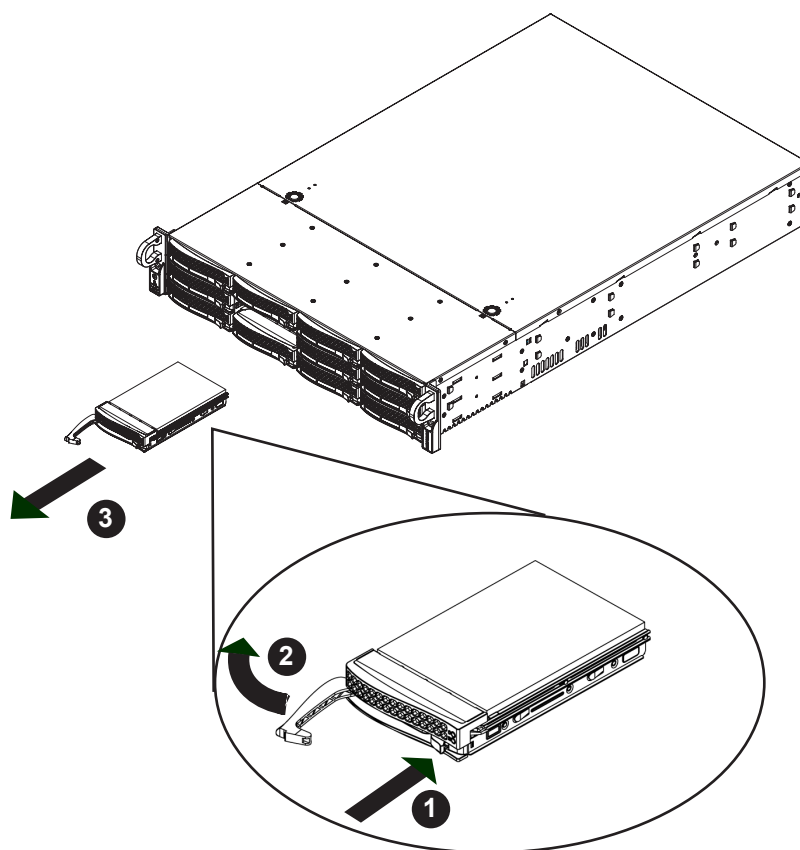

Figure 3-4. Removing a Drive Carrier
- **IPMI > Server Health > NVMe SSD** – Shows the temperatures of all NVMe drives, as in Figure 3-4.